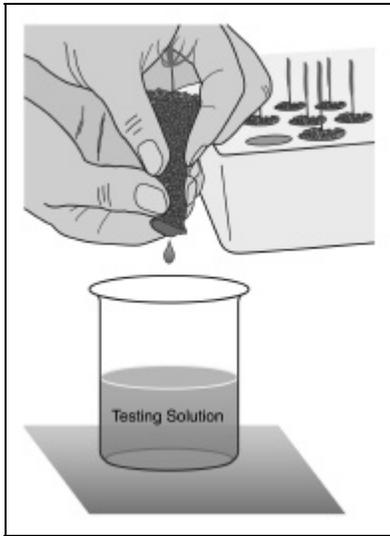

Figure 5 - Although developed for miniplugs, the plug squeeze technique can be used for any containers where the root plug can easily accessed.
**Plug Squeeze.** This procedure, which is also known as the press extraction method, was developed for monitoring miniplugs, especially with stabilized media (Figure 5). It can also be used with Jiffy™ pellets, flexible containers such as RL Cone-tainers™ which can be squeezed, and with Spencer-Lemaire Rootainers™ where the plug can be easily removed (Table 1). The plug squeeze technique would also work with any container type after the root plug has developed to a point where it can be easily extracted. The plug squeeze technique begins with saturating the plugs and waiting about 1 hour for excess water to drain away. Then, just remove the plugs and squeeze the media solution into a beaker. Depending on plug size, it will take several repetitions before enough solution is obtained to take a reading. The obvious question is whether the amount of squeeze pressure will affect the results, but research has proven that this is not a concern for miniplugs. For larger plugs, however, it would be best to keep the amount of squeeze pressure fairly constant.